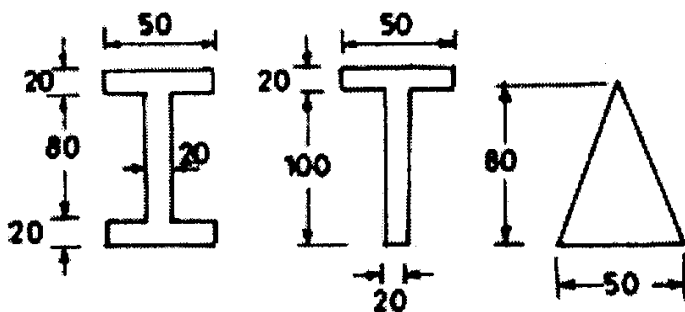

Fig. 1
1.	Find the maximum tensile and compressive stresses at a section of a cantilever at a distance of 3 m from the left end (Fig. 1).
1.	The three beam sections shown in Fig. 1 , are subjected to a shear force of 80 kN. Draw the shear stress diagram along the depth. Also find the ratio of maximum to mean shear stress.